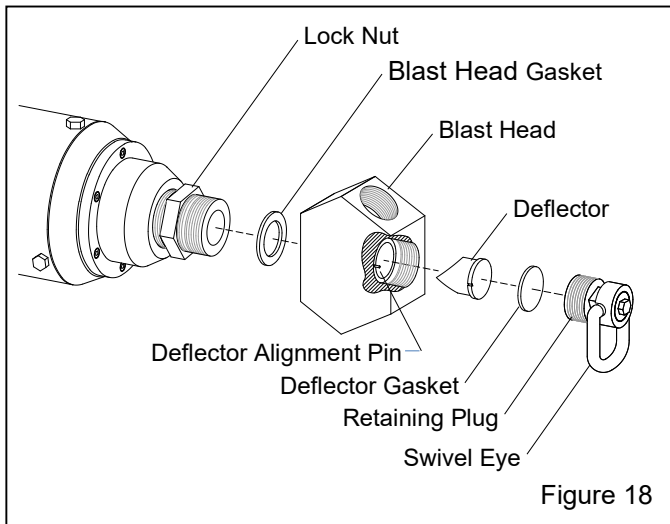

Figure 18
7.3.1.3 Refer to Figure 18 and remove the blast head gasket from the head.